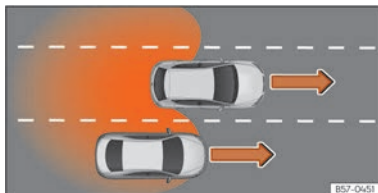

Fig. 118 Overtaking in the central lane and then joining the right lane.
- When overtaking another vehicle »» **Fig. 118** with a speed difference of approx. 10 km/h (6 mph). If the vehicle is passing at a considerably higher speed, no indication will be displayed.